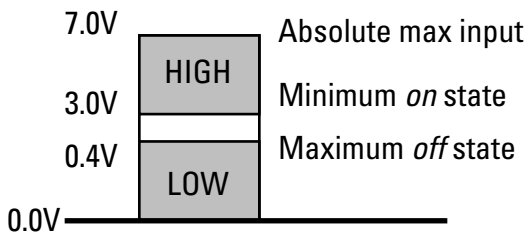

Figure 8. Control voltage states
2. See Figure 8 for control voltage states.